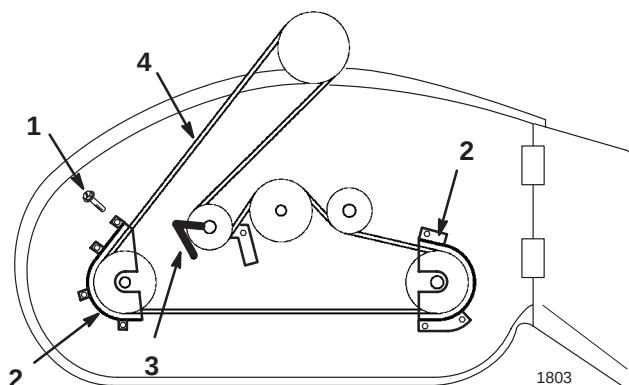

Figure 28
2. Remove the pulley cover mounting screws and pulley covers from blade pulleys (Fig. 28).
3. Loosen the pivoting idler pulley mounting bolt to allow the belt past the belt guide (Fig. 28).
4. Remove the belt from the pulleys (Fig. 28).
2. Tighten the idler pulley mounting bolt (Fig. 28).
3. Install the left and right pulley covers with the mounting screws (Fig. 28).